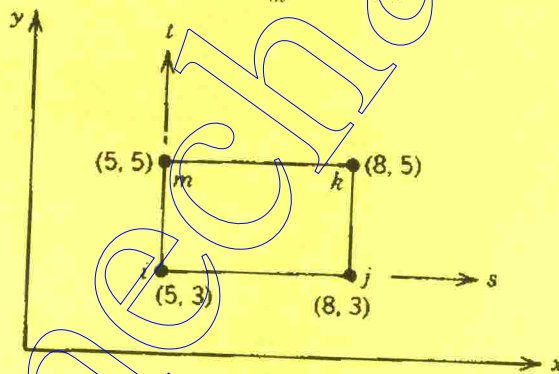

Figure 4 Nodal coordinates of the rectangular element
13. (a) Determine three points on the 50°C contour line for the rectangular element shown in the Figure 4. The nodal values are $\Phi_i = 42^\circ\text{C}$, $\Phi_j = 54^\circ\text{C}$, $\Phi_k = 56^\circ\text{C}$ and $\Phi_m = 46^\circ\text{C}$.